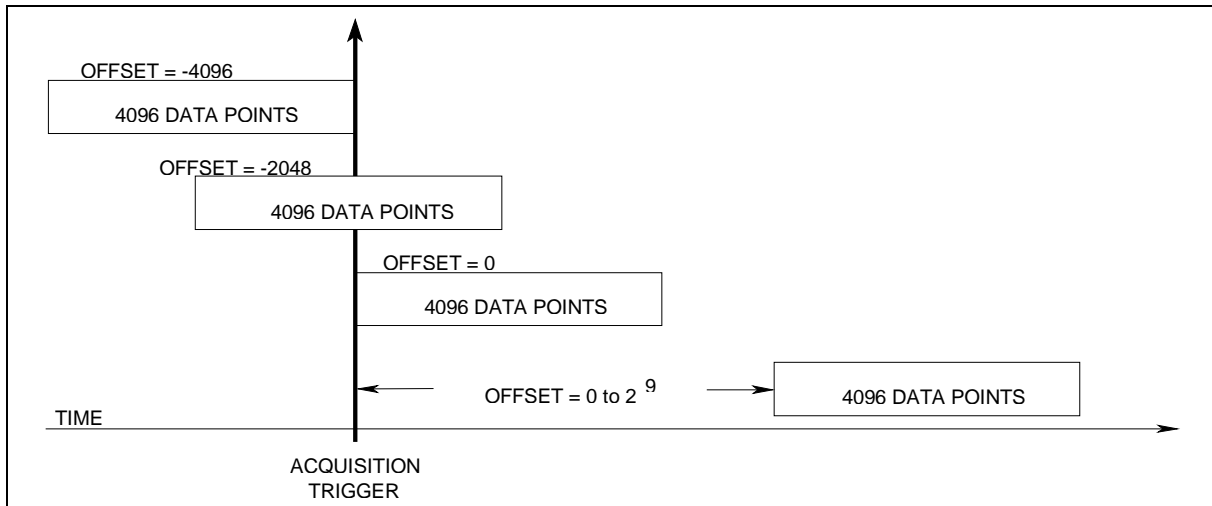

Figure 7-7. Pre-trigger and Post-trigger Acquisition
The measurement system lets you capture data before, after, or at the trigger signal. When a measurement is initiated, the dc source continuously samples the instantaneous signal level of the sensing function. As shown in figure 7-7, you can move the block of data being read into the acquisition buffer with reference to the acquisition trigger. This permits pre-trigger or post-trigger data sampling.
The Questionable Status registers record signals that indicate abnormal operation of the dc source. As shown in figure 7-7, the group consists of the same type of registers as the Status Operation group. The outputs of the Questionable Status group are logically-ORed into the QUEStionable summary bit (3) of the Status Byte register.
This group consists of an Event register and an Enable register that are programmed by Common commands. The Standard Event event register latches events relating to instrument communication status (see figure 7-7). It is a read-only register that is cleared when read. The Standard Event enable register functions similarly to the enable registers of the Operation and Questionable status groups.
This example assumes you want a service request generated whenever the dc source switches to the CC (constant current) operating mode, or whenever the dc source's overvoltage, overcurrent, or overtemperature circuits have tripped. From figure 7-7, note the required path for a condition at bit 10 (CC) of the Operation Status register to set bit 6 (RQS) of the Status Byte register. Also note the required path for Questionable Status conditions at bits 0, 1, and 4 to generate a service request (RQS) at the Status Byte register. The required register programming is as follows: